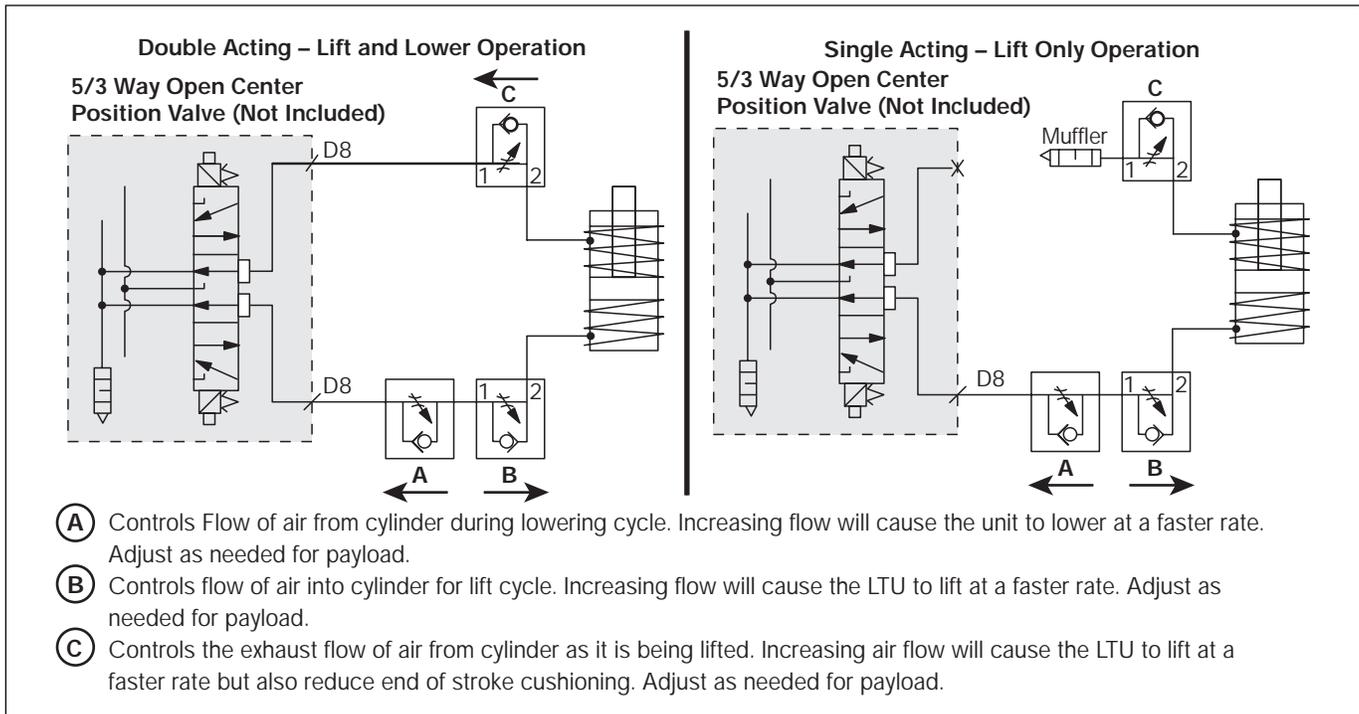
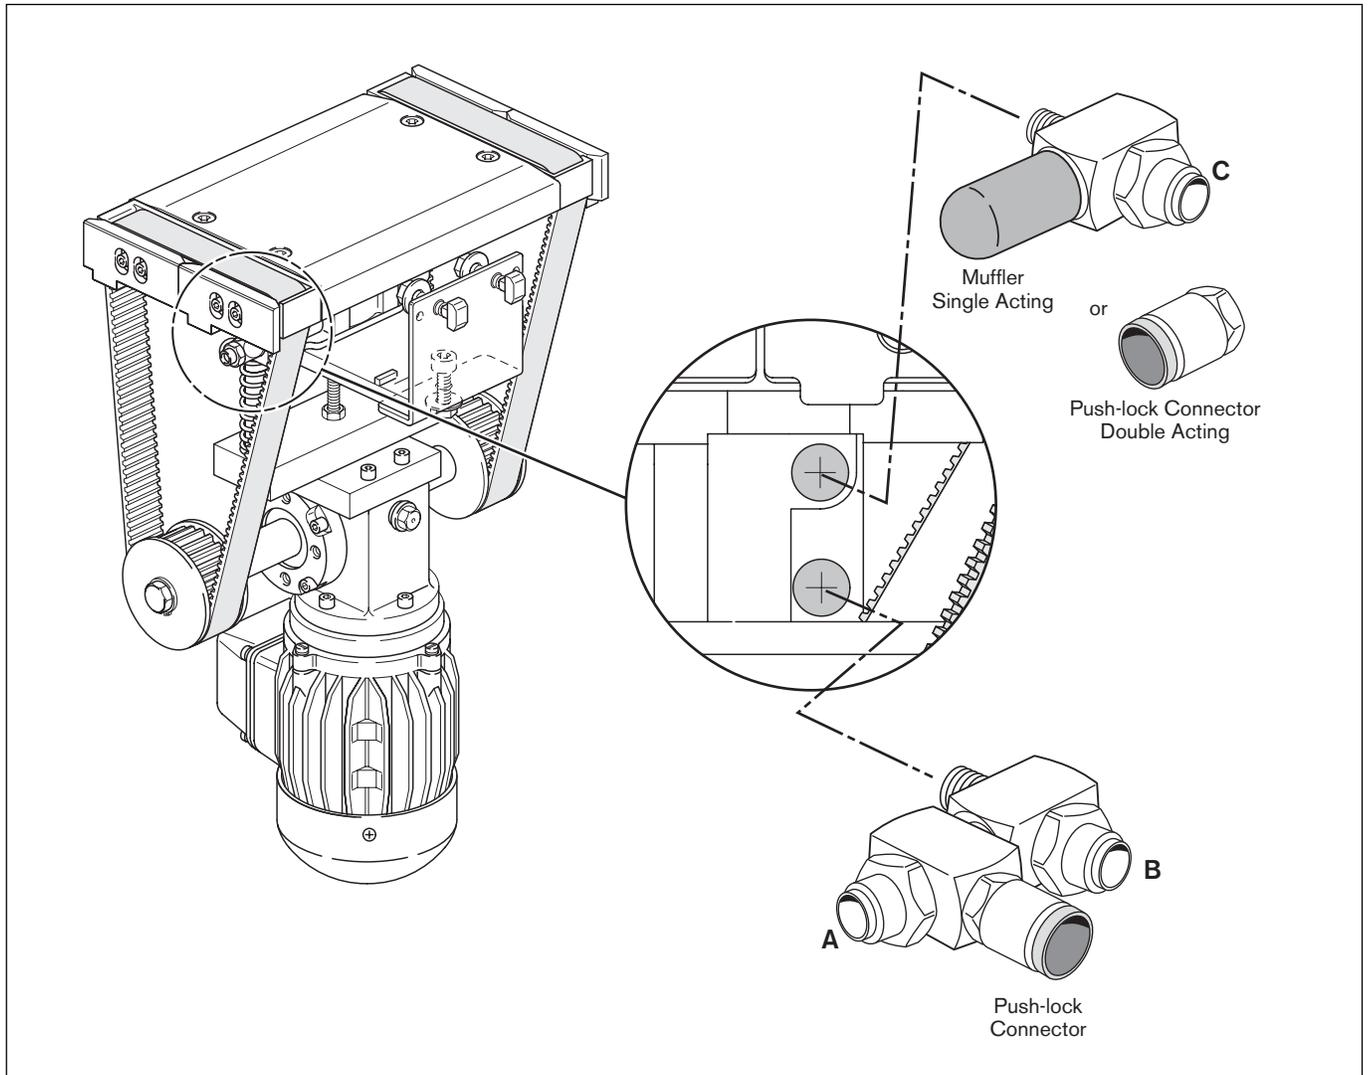

Figure 10
Figure 11
## Pneumatic Connections (Fig. 10 and Fig. 11)
- 1 Refer to the schematics in Fig. 10 to connect the lift cylinder for single acting "Lift Only" operation or double acting "Lift and Lower" operation.
- 2 Remove the two plastic plugs from the lift cylinder on the EQ2/U. Connect the "A" and "B" flow controls and push-lock connectors as shown in Fig. 11 to the lower cylinder fitting.
- 4 Adjust the flow controls A, B, and C as described in Fig. 10 to regulate lift and lower operation as determined by pallet payload.